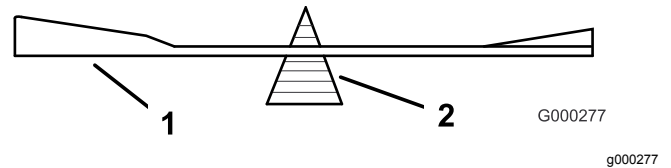

Figure 112
2. Check the balance of the blade by putting it on a blade balancer (Figure 112).